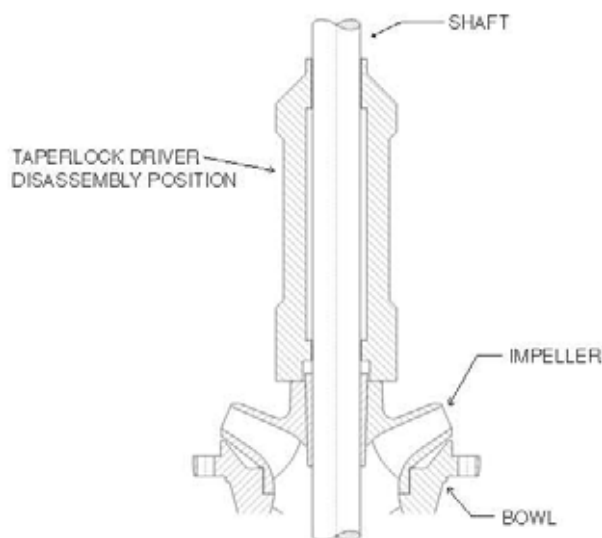

Fig. 7-2 Disassemble the Impeller
- B. Pull shaft out as far as possible and strike impeller hub utilizing a taperlock driver or equivalent sliding along the pump shaft to drive the impeller off the taperlock (see Figure 7-2).